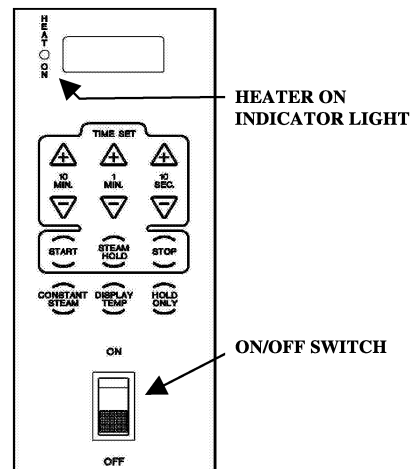

Figure 2-3 ON/OFF Controls and Indicators
- a. Press the ON (top) end of the ON/OFF switch to the ON position to energize the steamer control panel. The red indicator on the switch lights, the red “heater ON” indicator on control panel lights, and the steamer begins the preheat cycle. (see Figure 2-3)